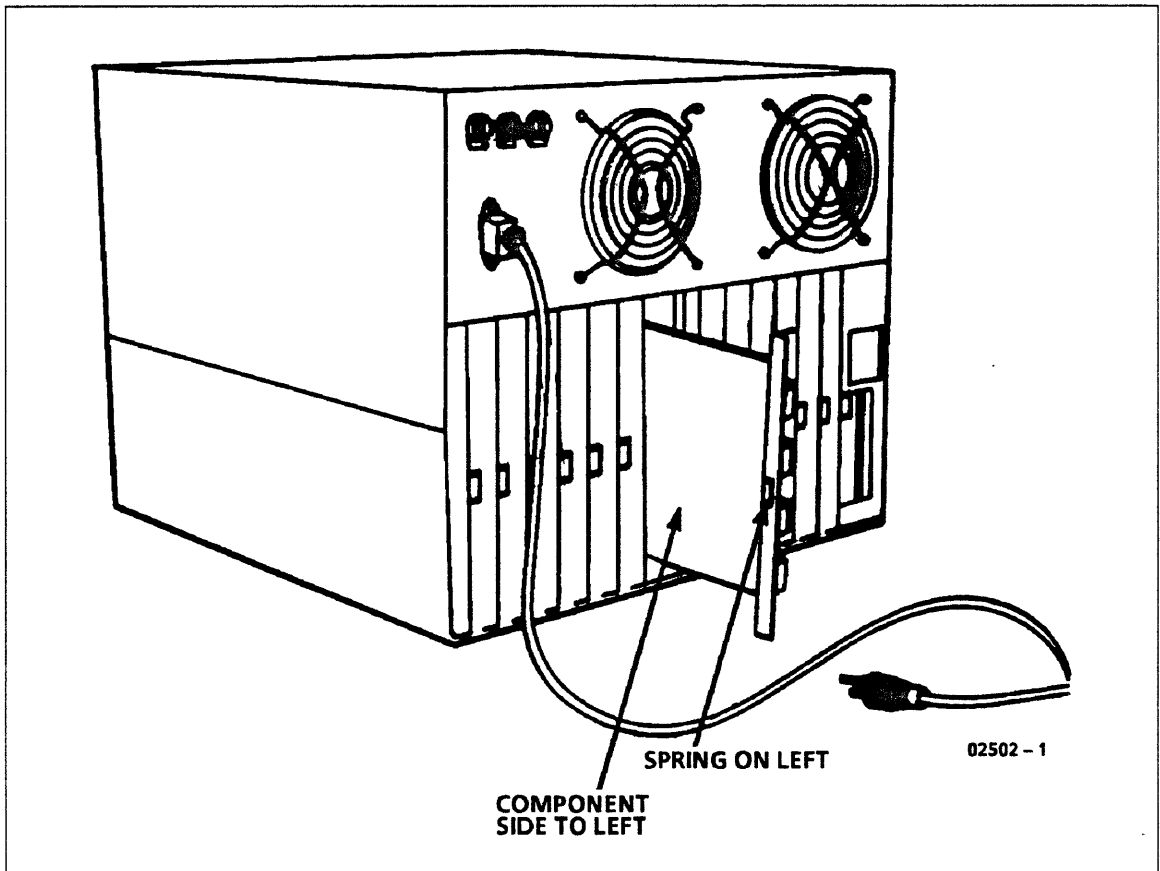

Figure 3-37. Installing LIM Boards
3. Slide the board into the LIM backpanel and fasten it with the two screws removed from the filler plate. LIM installation is shown in figures 3-37 and 3-38.